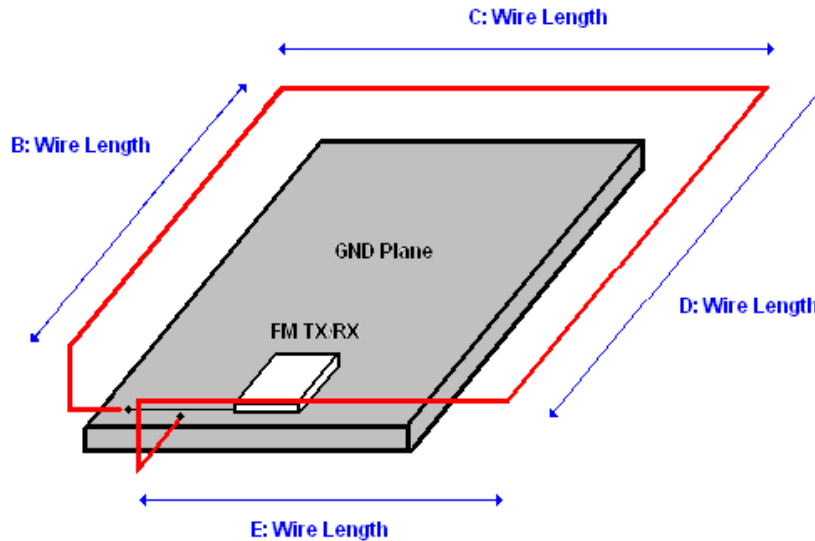

Figure 14. Rectangular Loop (Wire) Antenna—Orthogonal View
- Route the antenna as shown in Figure 14.